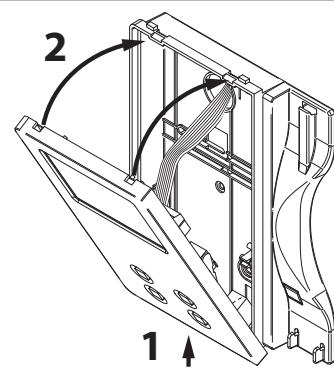

Fig. 8
- Once testing is complete and all the necessary adjustments are made, disconnect the handset from the cover and close the unit as shown in Fig. 8: first hook it on the bottom then push in the top until you hear a "CLICK!".